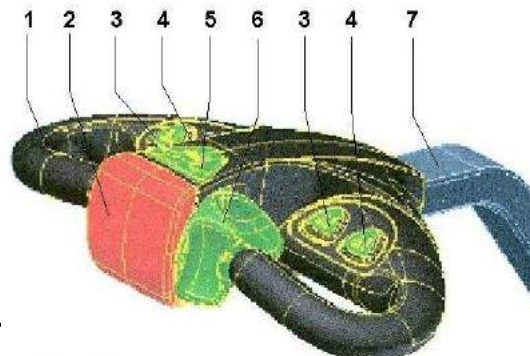

Fig. 2
- check the jam safety on the steering handle by pressing the safety switch (2, fig. 2), the Multi-Mover XL50 should not start in that case.
Steering handle (Tiller head) (fig. 2)